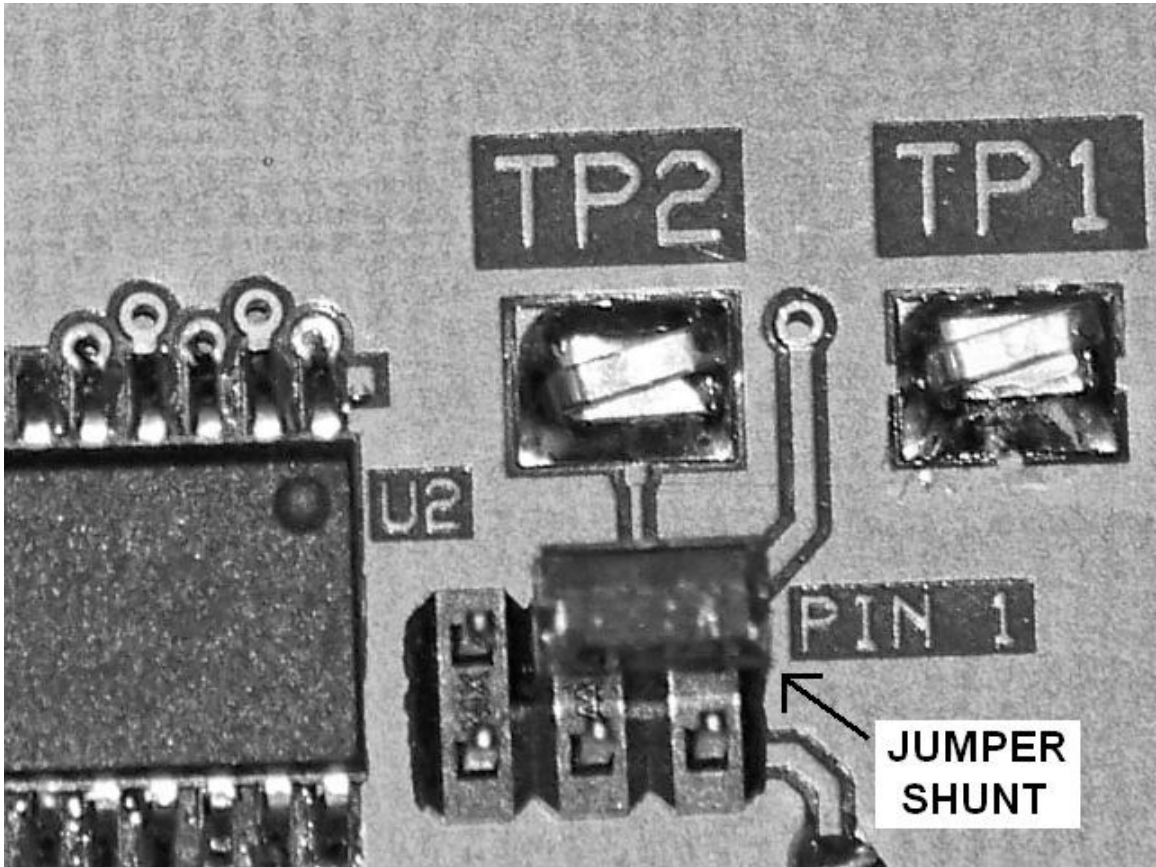

Figure 1
6. Locate the display circuit board located on the inside of the front panel and REMOVE the plastic jumper shunt across pins 1 & 3. See Figure 1 for the location of the jumper shunt.
3. Connect DMM minus - to TP1 on the display circuit board. See figure 1 for the location of TP1 and TP2.
2. Locate the display circuit board located on the inside of the front panel and REINSTALL the plastic jumper shunt across pins 1 & 3. See Figure 1 for the location of the jumper shunt.